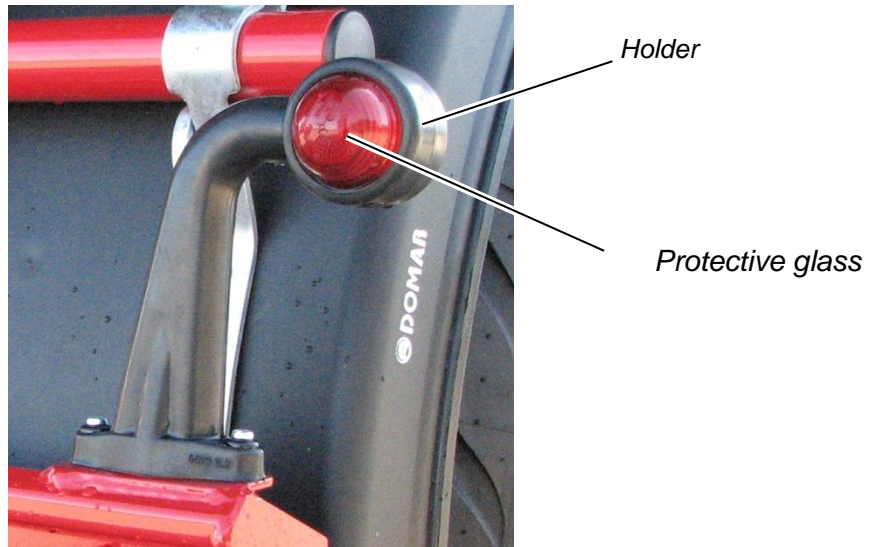

Figure 68: Position light
- ⇒ Press the protective glass out of its holder (see Figure 68).